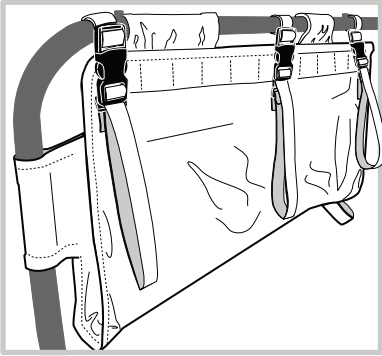

Figure 21
10. Final Assembly (Figure 21).